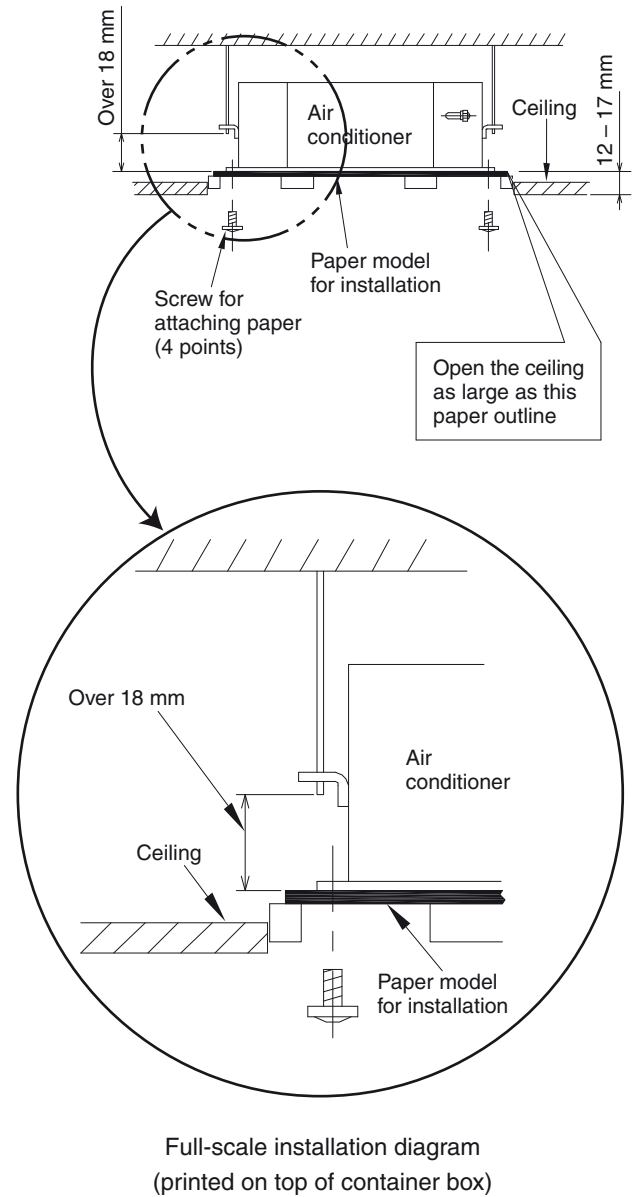

Fig. 3-4
- (1) When placing the unit inside the ceiling, determine the pitch of the suspension bolts using the supplied full-scale installation diagram. (Fig. 3-4)
- (2) The length of suspension bolts must be appropriate for a distance between the bottom of the bolt and the bottom of the unit of more than 18 mm as shown in Fig. 3-4.